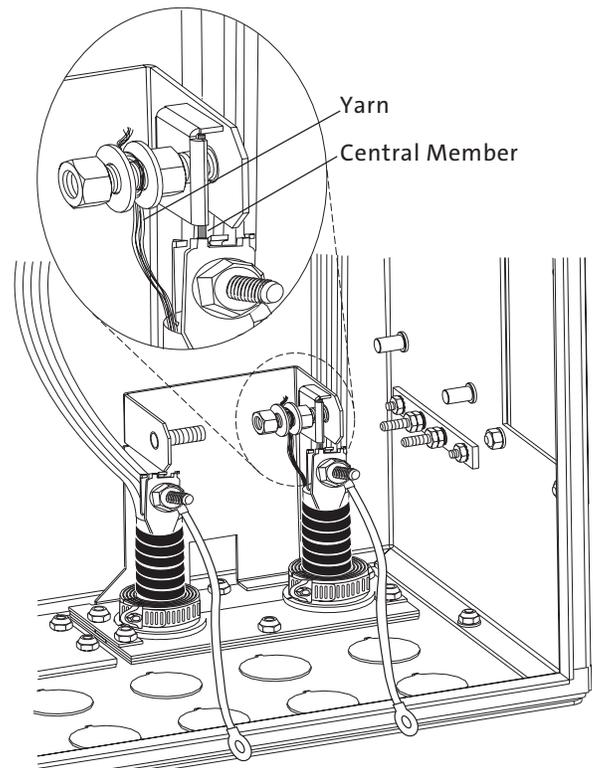

Figure 6
- Step 1:** Position the central member between the square washer and the strain-relief bracket (Figure 6). Make sure to move the buffer tubes out of the way to prevent damaging them. trim central member, if necessary.